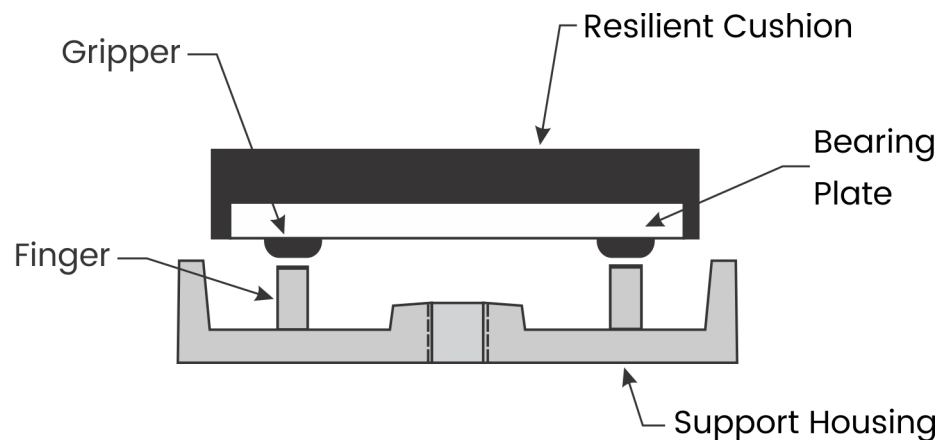

Figure 4
16. Align the Grippers of the Bearing Plate/Resilient Cushion Assembly with the Housing Fingers and press both parts together. See Figure 4.